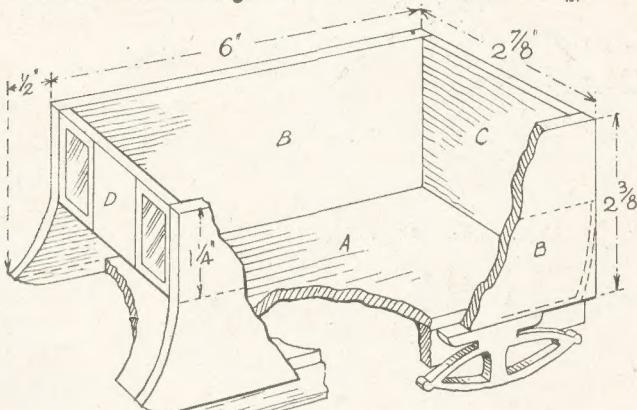
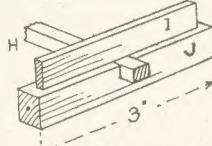

Fig. 1—Helpful constructional details of coach body
Fig. 5—Spring link
The body of the bus is really a simple box constructed of $\frac{1}{16}$ in. wood glued and pinned in places with small brass fret pins. Fig. 1 shows necessary measurements for the side, back, etc., and how the latter, as well as the floor (A) go
between the sides and the back. The floor measures 6 $\frac{1}{2}$ in. long by 2 $\frac{1}{2}$ in. wide, and from the cut-away view at the front of Fig. 1 we see how the floor is fitted and then shaped up to meet the curve of the front of the body.
The rear springs of the coach are shown at (L) full-size among the patterns. Two must be cut $\frac{3}{16}$ in. thick, as also will the two forward springs (M). All four springs will be glued to the face of rails (N) and immediately under the sides (B) as seen in Fig. 1. Connecting the rear pair of springs is the rail (I) measuring 2 $\frac{1}{2}$ in. by $\frac{1}{2}$ in. and seen in detail in dotted lines in Fig. 4, and in detail Fig. 5.